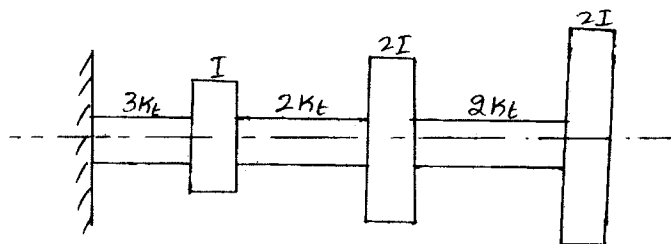

Fig. Q8
- 8 Use Holzer's method, to find the natural frequencies of the system shown in Fig. Q8. (20 Marks)